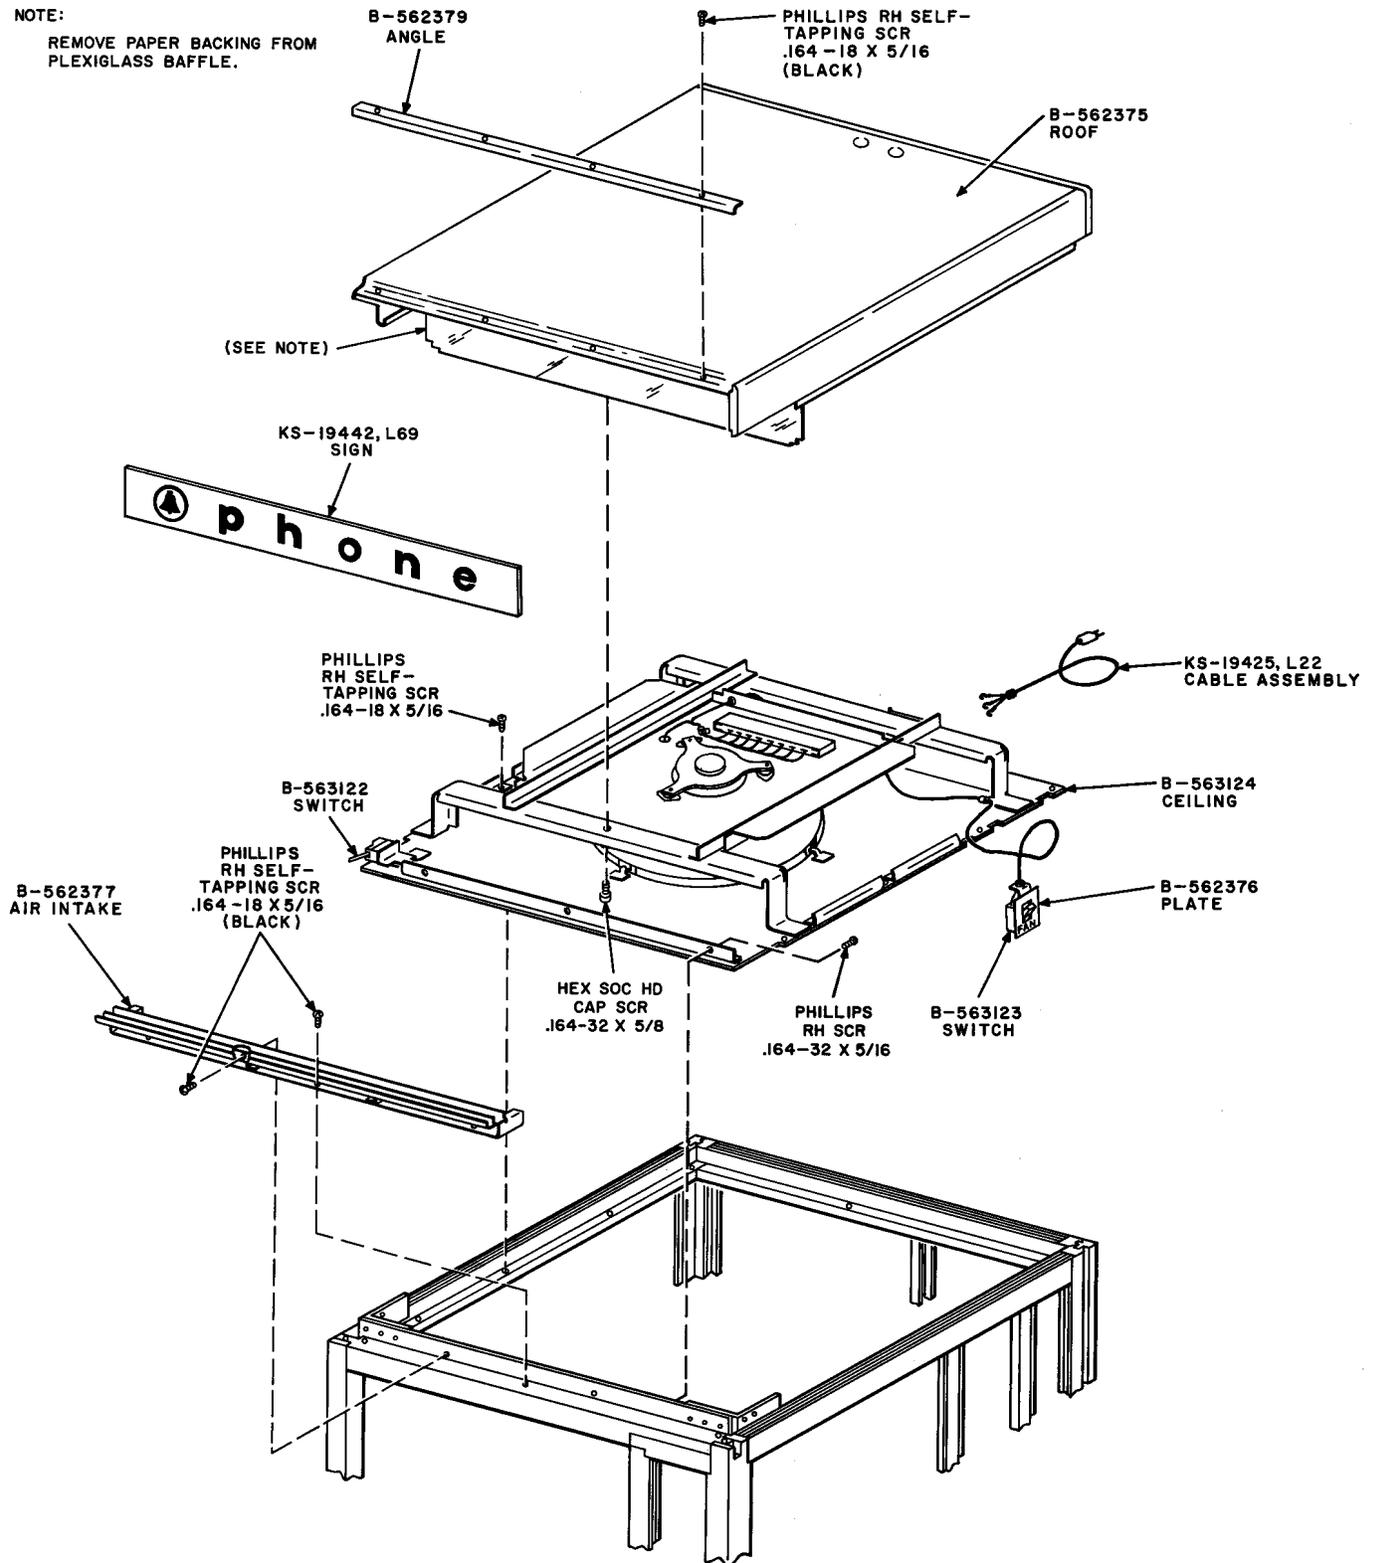

Fig. 4—Installation of Ceiling and Roof Assembly
- 5.02** Determine that the door operated switch (B-563122, Fig. 4) located in the left-front of the ceiling, properly actuates the blower unit. Access to the switch can be gained by removing the dome assembly.
6.01 Remove four 0.164-18 by 5/16 painted Phillips round head self-tapping screws which secure B-562379 angle to the roof (Fig. 4).
7.01 If it becomes necessary to remove the roof (Fig. 4):